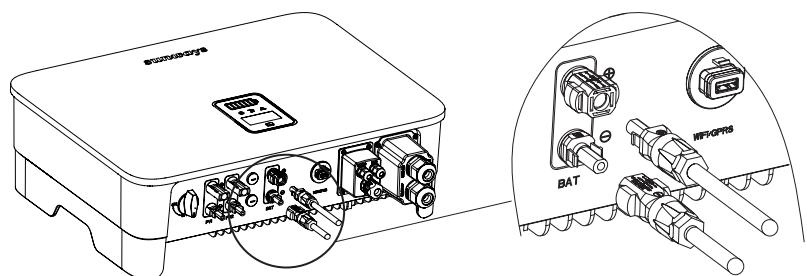

Figure 4-26
① Before making the battery connector, please make sure the polarity of the cable is correct.
② Use a multimeter to measure the voltage of the battery pack and make sure the voltage is within the inverter limitation and the polarity is correct.
- ⑥ Insert the positive and negative connector into the inverter battery terminals respectively, and a “click” sound represents the assembly in place, as shown in Figure 4-26: